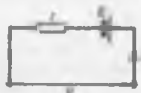

Figure 13.89
- 3 For the circuit shown in Fig. 13.89, the internal resistance r is given by: